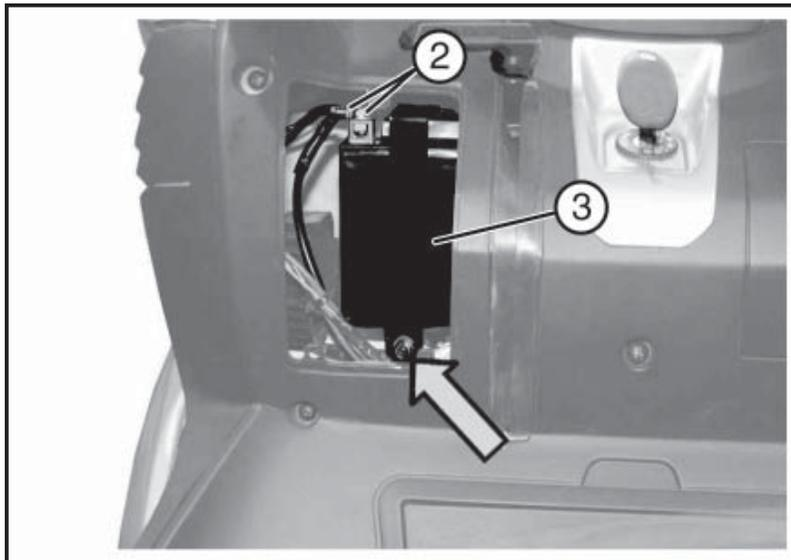

Fig. 02
- Disconnect the cables «2 - Fig. 02» of the negative «-» and then the positive one«+» .
- Undo the screws indicated and remove the bracket «3 - Fig. 02» .